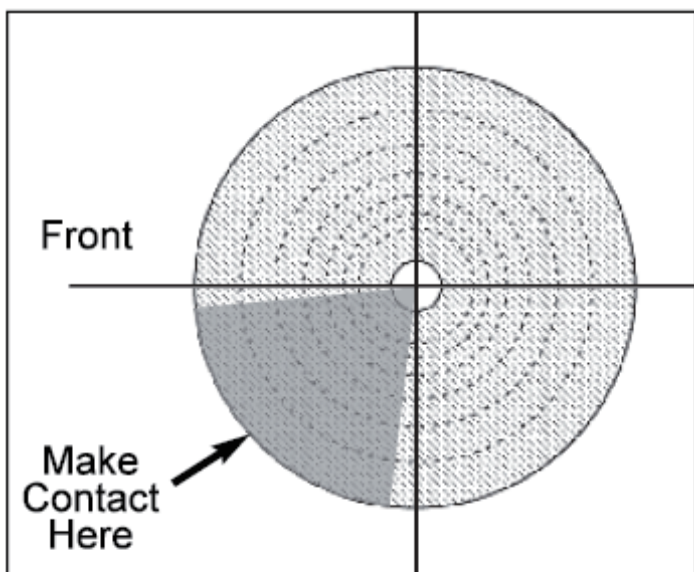

Figure 4. Illustrated from a side profile, shows the only portion of the wheel that should be used during buffing.
- Only use the area that is grayed-out in Fig. 4 to do the actual buffing. Contacting the workpiece on areas outside of the grayed out are may flip the workpiece out of your hands.